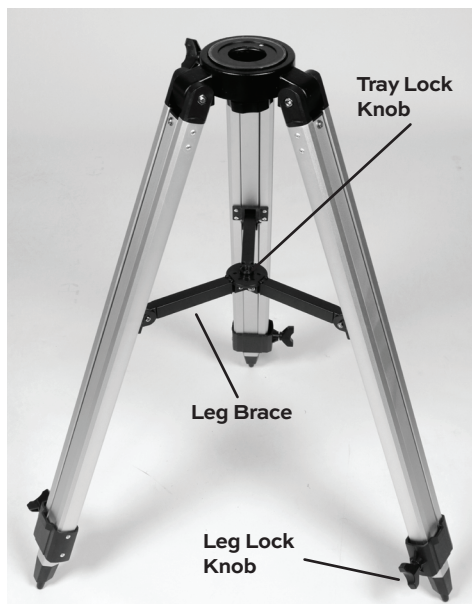

Figure 2.1
1. Open the legs of the tripod and stand it on the three feet (Figure 2.1).